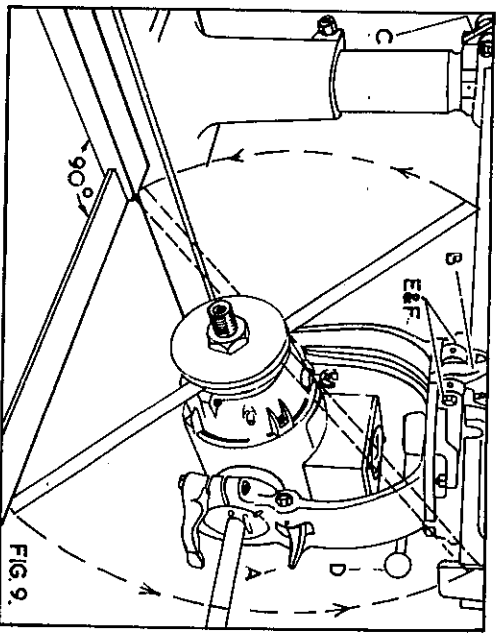
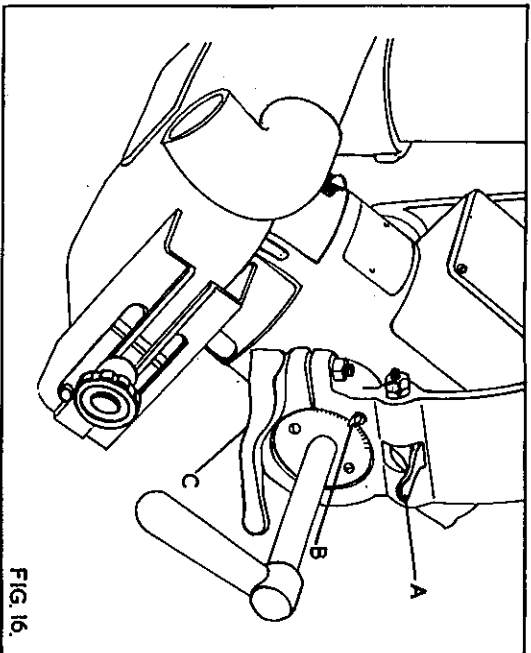

FIG. 9.
FIG. 16.
2. Ensure the motor locating latch "A" in Fig. 9, the stirrup locating latch "B" and the carriage locking screw "C" in Fig. 16 is securely locked.
4. Lift arm locating latch "C" in Fig. 9 and swing arm to extreme ends of the table checking that clearance between rod and table remains constant.
To check this alignment place a steel rule or some other similar straight edge between the saw flanges as shown in Fig. 9 and a steel square against the fence. Rotate the steel rule from front to rear. If adjustment is necessary loosen stirrup locking handle "D", and disengage the stirrup locking latch "B", set correctly, then relock in position with lever "D". Adjust the airtight nuts "E" and hexagon locknuts "F" until the latch "B" locates accurately in the slot in the stirrup.
The motor swivels within the stirrup through 90°. The principle angles are located by a tapered latch "A" in Fig. 16. The angle of cant is clearly shown on a graduated scale by the pointer "B".